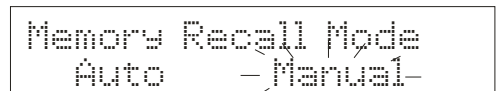

Figure 174
4. Press  $>/CAL$  key to toggle between **Memory Recall Mode Auto** and **Manual**. The selection will flash. See **Figure 174**.